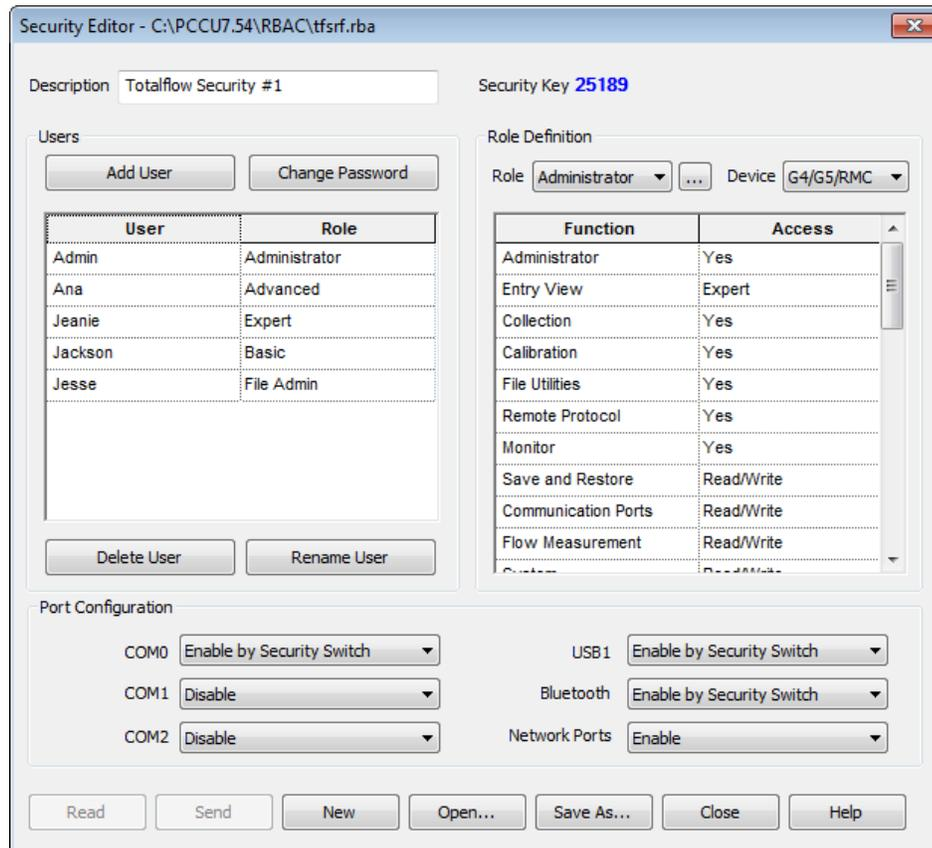

Figure 57: Editing the security control file, customizing roles
1. Click the browse button [. . .] under Role Definition (Figure 57).